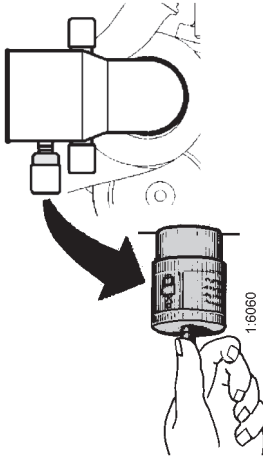

Figure 17
8. Press the button to reset the red plunger (Figure 17) in the restriction indicator.